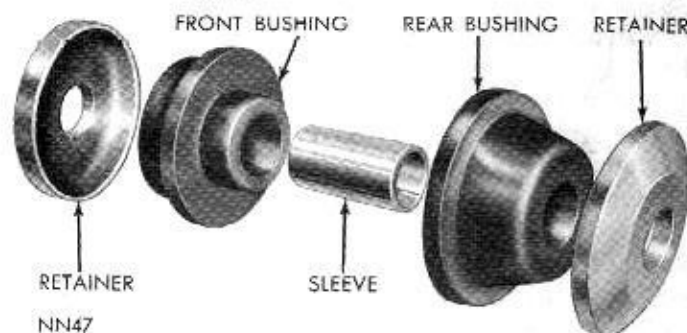

Fig. 11—Strut Crossmember Bushings (Coronet-Charger)
- (1) With sway bar ends pointed toward front of car, insert sway bar thru hole in front crossmember into its correct position.
- (2) Install sway bar cushion retainer brackets and attaching bolts and nuts and tighten to 200 inch-pounds.
- (3) Position link bolt with retainer and rubber insulator thru sway bar mounting hole. Install other mounting components in correct sequence (Fig. 11). (Always making sure the concave side of retainers are toward the rubber insulators).
- (4) Position the link bolt, sway bar and the stack up of parts thru mounting bracket hole in lower control arms. Install upper rubber insulator, retainer and nut. Tighten link nut to 100 inch-pounds.
(10) Remove lower control arm, shaft and strut as an assembly.
(11) Remove strut bushing from crossmember only if damaged; replace bushing. All models use a two piece bushing and sleeve arrangement (Fig. 11).
(12) Remove strut bushing inner retainer from strut.
(1) Remove lower control arm, shaft and strut as an assembly.
(2) Remove nut holding strut to lower control arm and remove strut from control arm.
(3) Inspect strut bushings (Fig. 11). If bushings are worn or deteriorated, install new bushings.